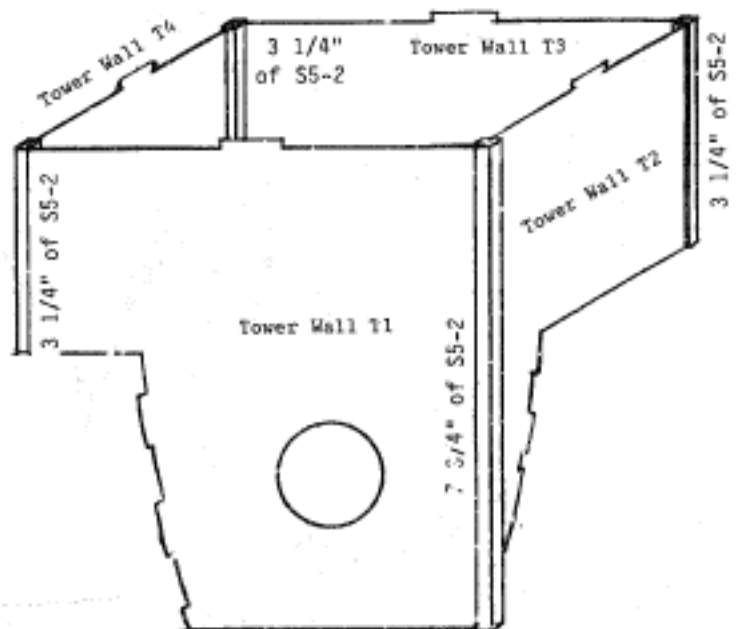

Figure 36
5. Assemble the walls as in Figure 36.